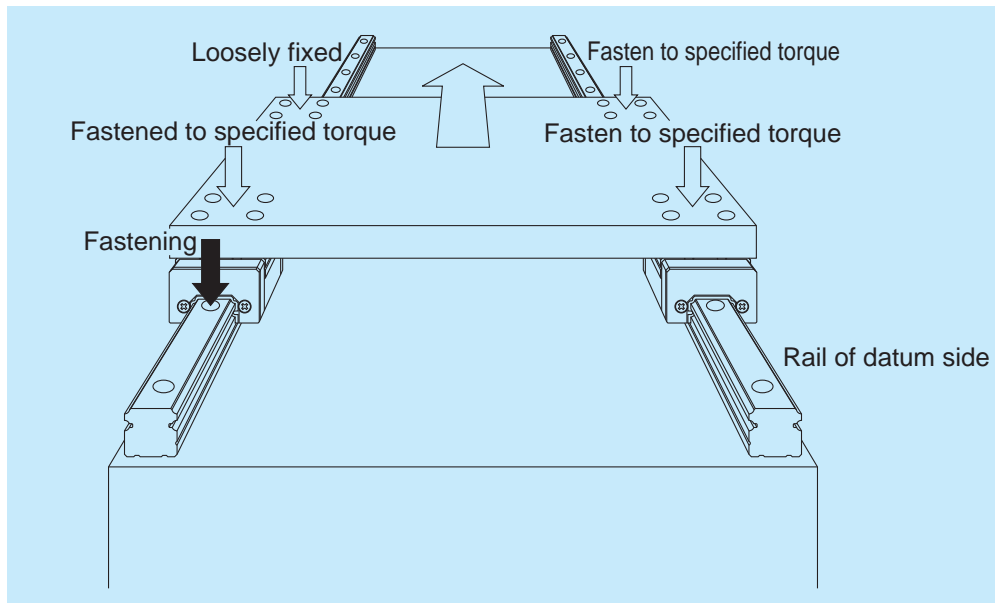

Fig. 9.18 Easy installation
- ① Carefully place the reference side rail on the machine base. Then tighten the bolts for installation with specified torque.
- ② Temporarily tighten the bolts on the adjusting side rail.
- ③ Tighten the slides on the reference side rail and one slide on the adjustment side rail with specified torque. Leave the rest of the slide on the adjusting side rail temporarily tightened (Fig. 9.18).
- ④ While moving the table with each pitch of the bolt for rail: With specified torque, tighten the rail mounting bolt which is located immediately adjacent to the slide on the adjusting side rail that had been finally tightened.